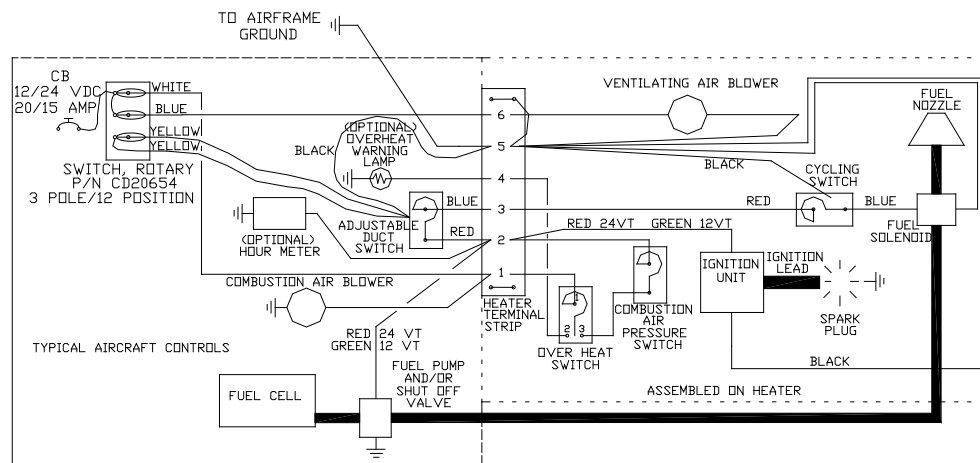

FIGURE 5
11. Electrical Connections: Figure 5